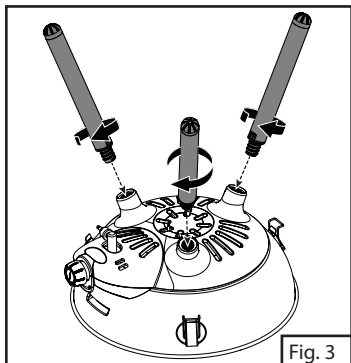

Fig. 3
6. Screw legs clockwise into the sockets on the underside of the stove body. (Fig. 3)